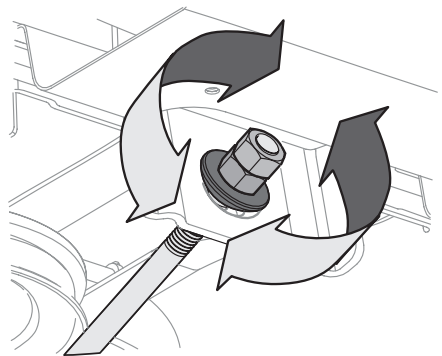

Figure 37
4. To **raise** the front of the deck, loosen the outer nut then tighten (thread inward) the inner nut against the front hanger bracket (Figure 37). When proper adjustment is achieved, re-tighten the outer nut to 25-30 ft-lbs (34 mm-40.7 N-m).
5. To **lower** the front of the deck, loosen the outer nut then loosen (thread outward) the inner nut, away from the front hanger bracket (Figure 37). When proper adjustment is achieved, re-tighten the outer nut.